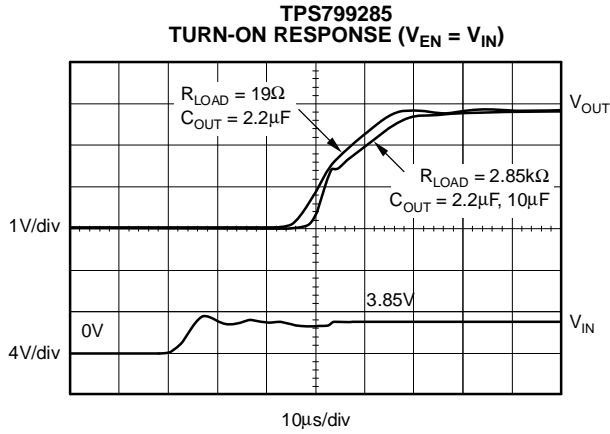
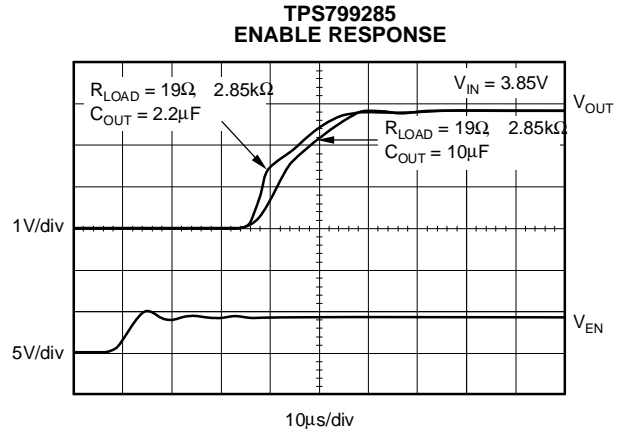

Figure 25.
Figure 26.
Note that for fastest startup, V_{IN} should be applied first, then the enable pin (EN) driven high. If EN is tied to IN, startup will be somewhat slower. Refer to Figure 25 and Figure 26 in the **Typical Characteristics** section. The quick-start switch is closed for approximately 135 μs . To ensure that C_{NR} is fully charged during the quick-start time, a 0.01 μF or smaller capacitor should be used.